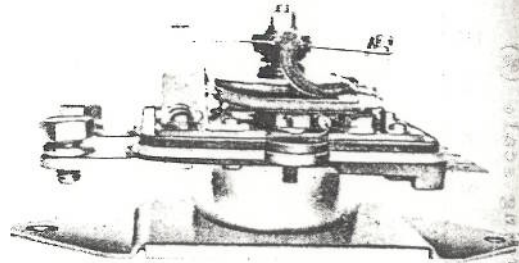

Fig. 10-92
- (2) Change-over switch (See Fig. 10-92)